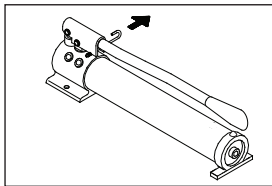

Figure 3 - Pull spring loaded lock pin, pivot toward rear to unlock pump handle.
1. Pull spring loaded lock pin, pivot toward rear to unlock the handle (Fig. 3).